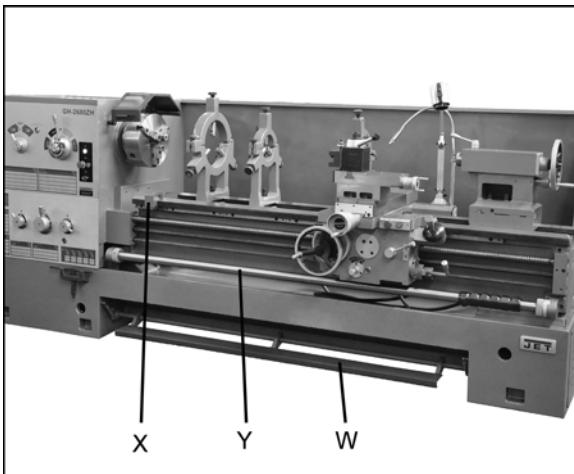

Figure 27 – Other controls
19. **Foot Brake** (W, Figure 27): For emergency shutdown of all lathe functions. The connecting rod mechanism is in the bed stand, and activates a brake strap at the main motor. (**Caution:** Lathe still has power.)
20. **Manual Carriage Stop** (X, Figure 27): Can be used during manual feed operation to limit carriage travel. **NOTE:** It is not intended to stop the carriage during automatic feed. The carriage stop can be repositioned along the bed by loosening the two screws underneath the stop.
21. **Travel Setting Rod** (Y, Figure 27): Up to six pre-set configurations are possible for repetitive operations, without having to reposition the stops each time. Use the knurled knob at the right end of the rod to set the rod at one of six positions shown on the dial. Then move the desired number of eccentric stops into position for that particular operation and tighten them securely to the rod with the screws beneath them. When the apron trip lever contacts a stop, the clutch will disengage.